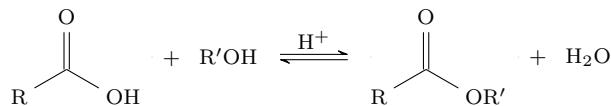

Figure 4.34: Fischer esterification.
- 4. Acid catalyzed esterification: Fischer esterification (Figure 4.34).